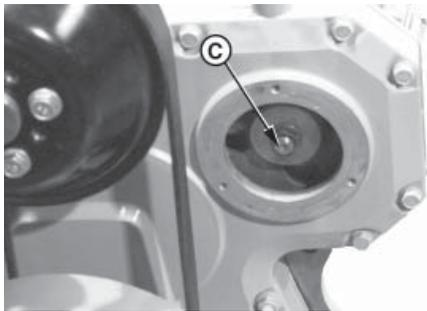

Figure 18 Reproduced by permission of Deere & Company, c2000. Deere & Company, All rights reserved.
7. Push pump drive gear firmly onto shaft taper. Install washer and retaining nut (Figure 18-A) onto end of shaft. Tighten retaining nut to 90 lb-ft. (122 N•m) for DB2, 150 lb-ft. (203 N•m) for DB4.